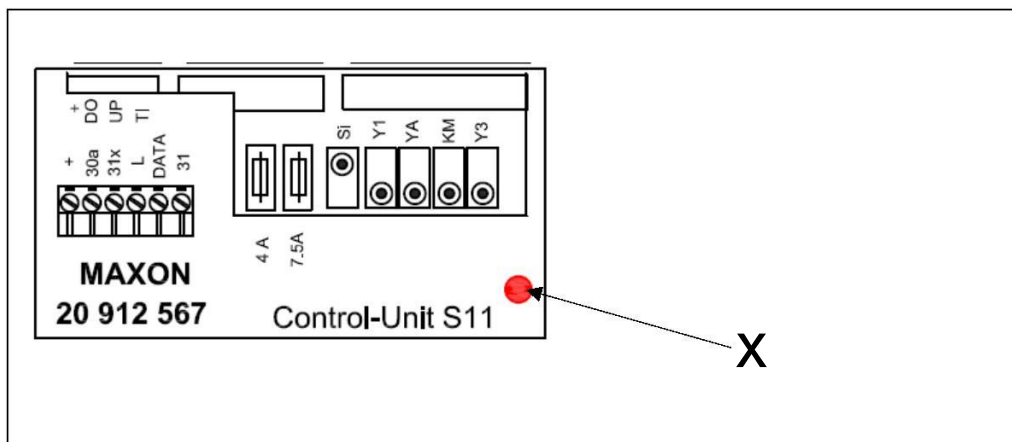

Figure 91
*If a control element on the handheld control (toggle switch, remote control pushbutton, or foot switch) is actuated, the control LED flashes (see Fig. 91).